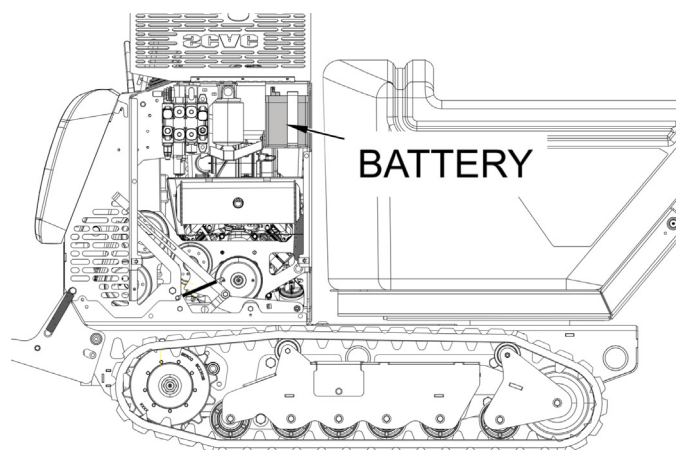

Figure 6-14. Battery Location
6. Uninstall the battery box strap and remove the battery from the machine. See Figure 6-14.